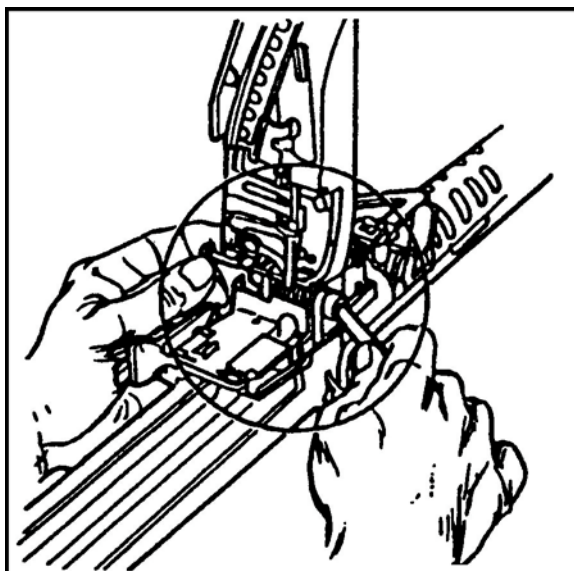

Figure 9. Hinge pin latch.
- (1) Raise the feed cover.
- (2) Unlock the hinge pin using a pointed object (Figure 9).